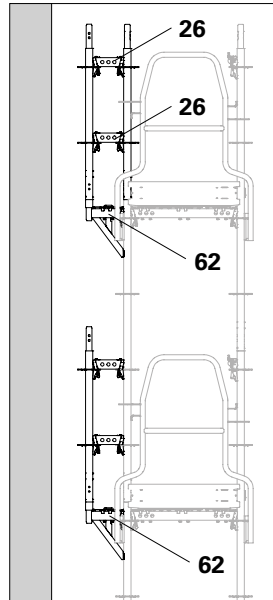

Fig. C1.02
1. Fit Console Bracket UCB 25 (**62**) onto the edge frame column with pre-assembled Standard UVR-2 100 (**15**). (Fig. C1.02 + C1.02a)
→ The console brackets are now installed. (Fig. C1.02)